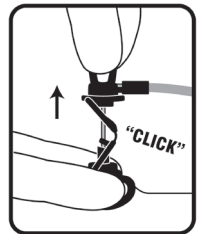

Figure 6
2. While maintaining Pro-Lock base against patient, pull wings up vertically to remove the needle from port. Fully retract the needle to ensure the needle point is positioned within the protective well. USER WILL HEAR/FEEL SAFETY MECHANISM LOCK IN PLACE (Fig. 6).
16. With available hand, firmly grasp wings between thumb and forefinger and while maintaining Pro-Lock base against patient pull up vertically to remove the needle from the port. Fully retract the needle to ensure the needle point is positioned within the protective well. **USER WILL HEAR/FEEL LOCKING MECHANISM LOCK IN PLACE** (Fig. 6).